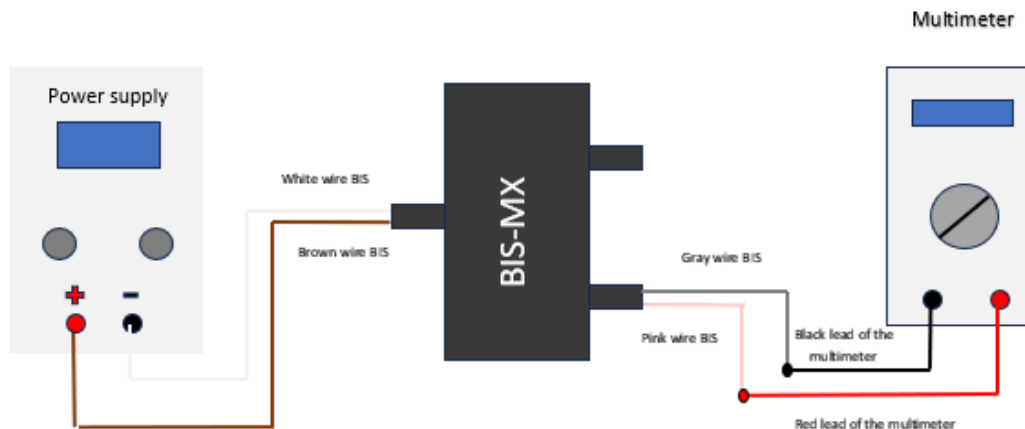

Fig. 9 Connection Diagram
3. Assemble the connection circuit according to “Fig. 9 Connection Diagram”.